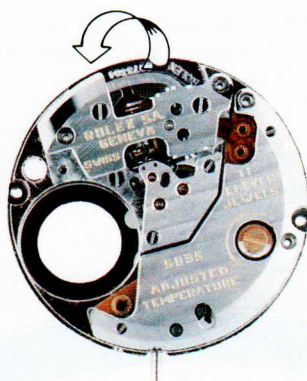

Fig. 10
- 7.14. Position the movement with the handsetting stem at 6 o'clock (Fig. 10), tip the pallet fork to the left, holding the motor by the armature take it off by raising it carefully; make sure that the spiral wires do not touch the pallet fork and get bent.